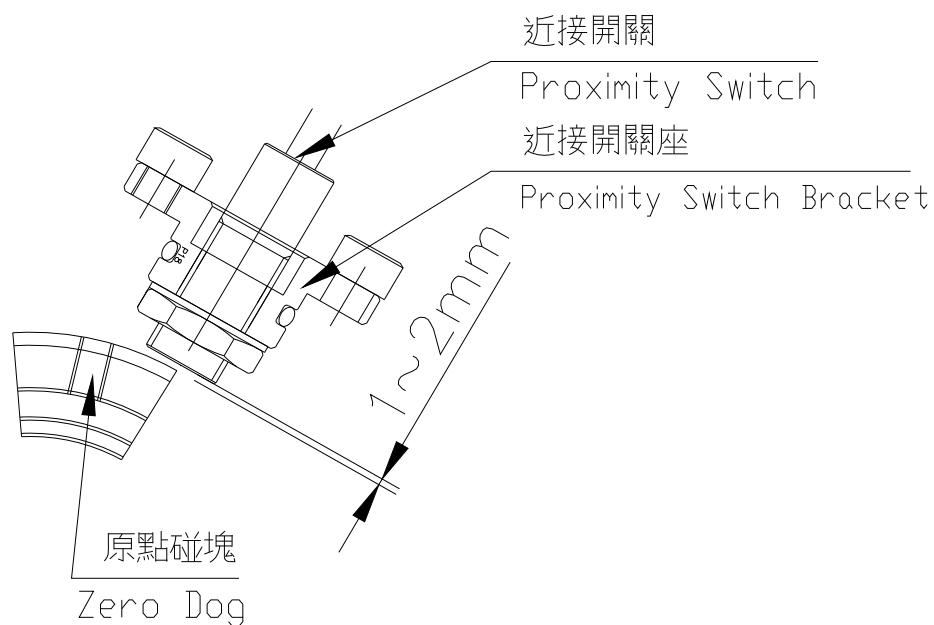

Fig 8-1
- Excessive distance between proximity switch and Zero Dog (remove proximity switch bracket, loosen nut and adjust the distance of proximity switch); the optimal distance shall be 1.0~2.0 mm. ( see Fig 8-1)